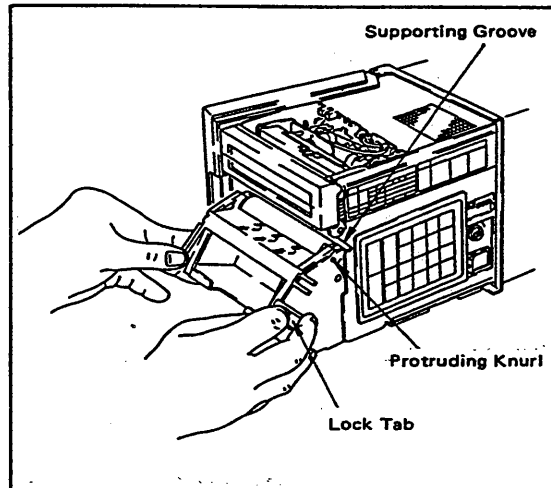

Figure 5-7.
- (9) Replace the chart paper compartment back into the extended unit. Slide the protruding knurls of the chart paper compartment into the cutout grooves located on the support brackets. Push/swing the compartment into the extended unit until the lock tab clicks shut. (See Figure 5-7.)